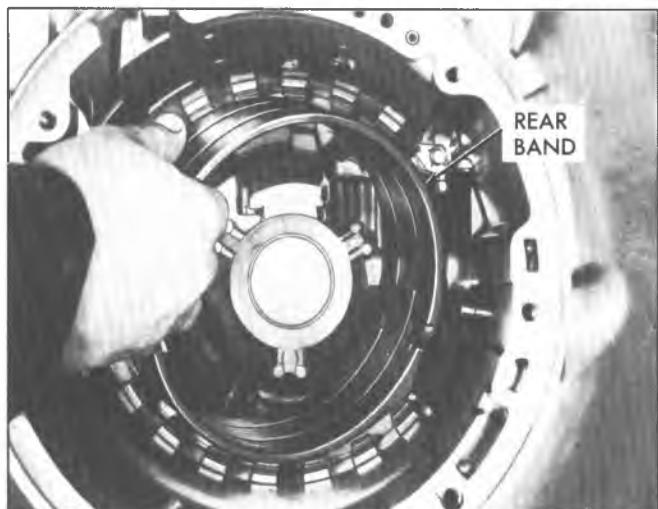

Fig. 38T--Removing Rear Band
20. Remove rear band assembly (fig. 38T).